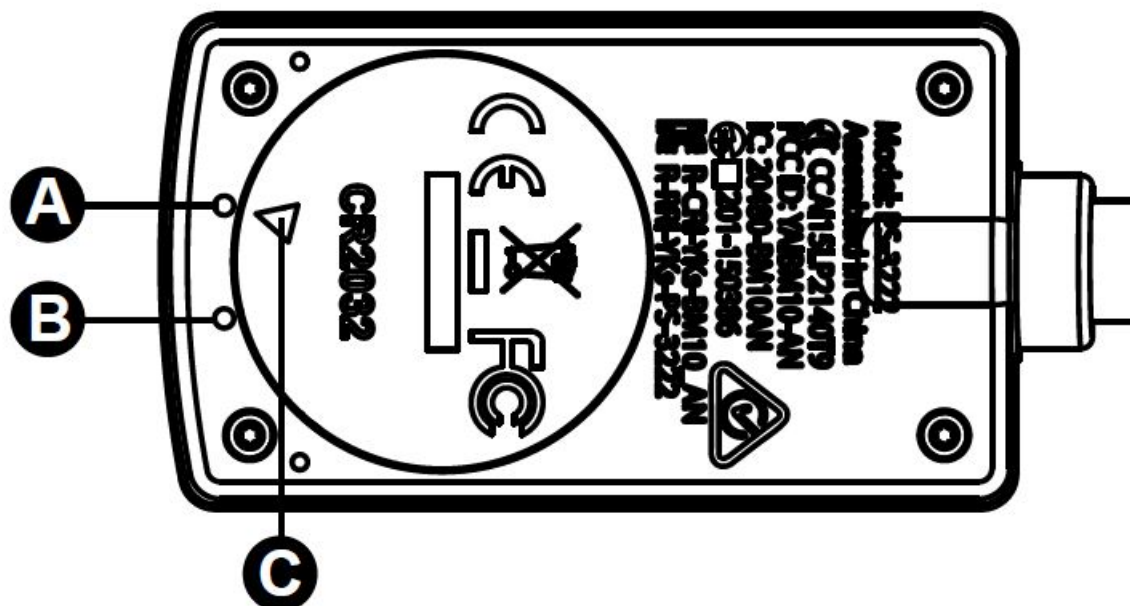

Figure 1. Wireless Temperature Link's battery compartment. A: First mark. B: Second mark. C: Indicator mark.
- To replace the battery, follow these steps. The components are labelled in Figure 1 above.
1. Insert a coin into the slot in the battery compartment door. Turn counterclockwise until the indicator (C) is aligned with the second mark (B).
5. Place the door on the sensor, aligning the indicator with the sensor mark (B). Insert the coin back into the slot and turn the door clockwise until the indicator is aligned with the first mark (A).